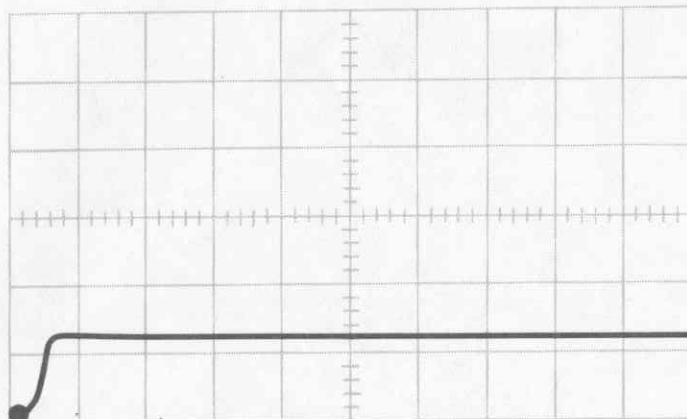

Figure 1-9
- ( ) Adjust the SWEEP VOLTAGE control to produce a line across the bottom of the screen as shown in Figure 1-9.